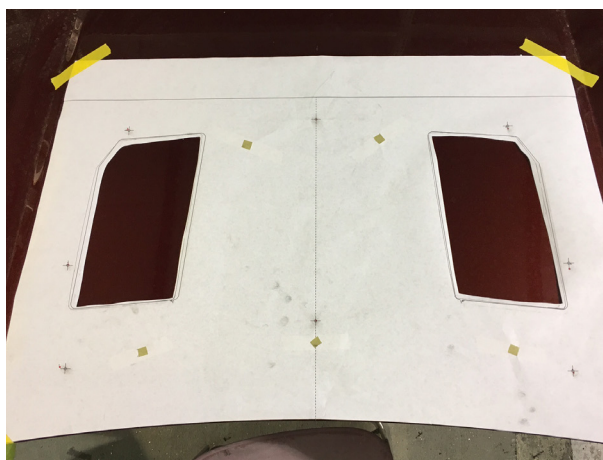

Figure 9
4. Cut out paper marking template. Flip hood right side up, and align template on outer hood surface. Locate and mark drill locations and cut out locations. (Figure 9)